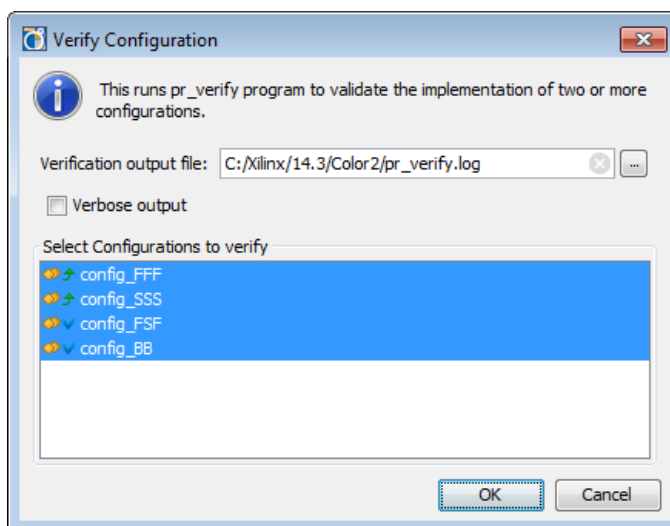

Figure 4-39: Selecting Configurations to Verify
- The dialog box, shown in Figure 4-39, prompts for two or more Configurations, and you define the output file.